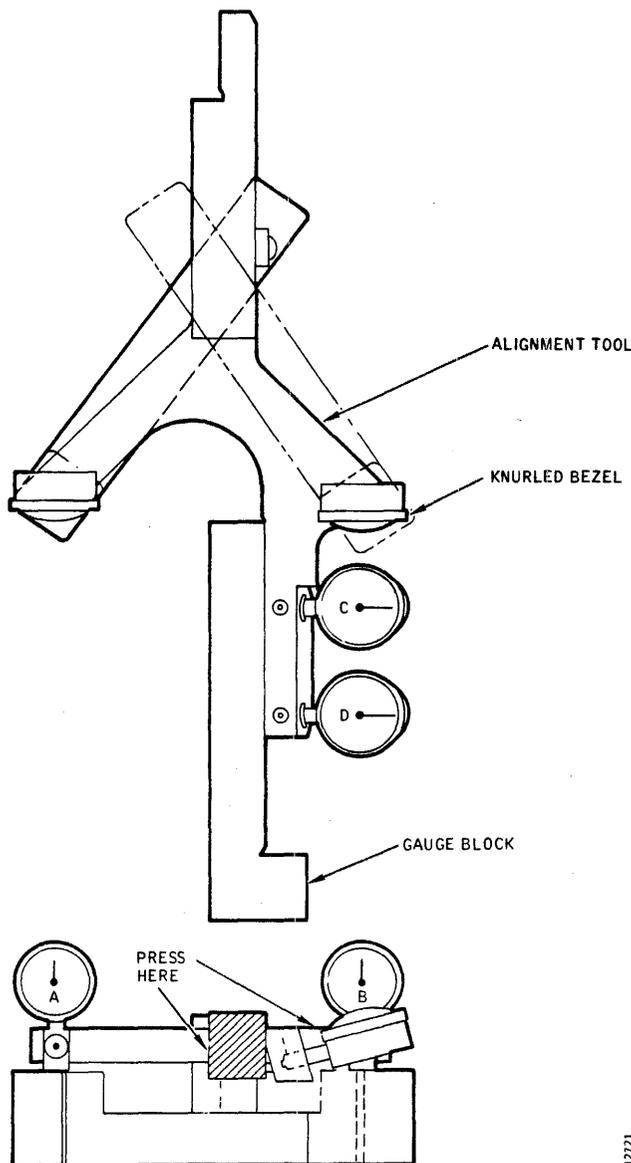

Figure 3-49. Calibration of Alignment Tool Indicators
6. Calibrate the four dial indicators on the tool by using the reference gauge block supplied with the tool as follows. See Figure 3-49.